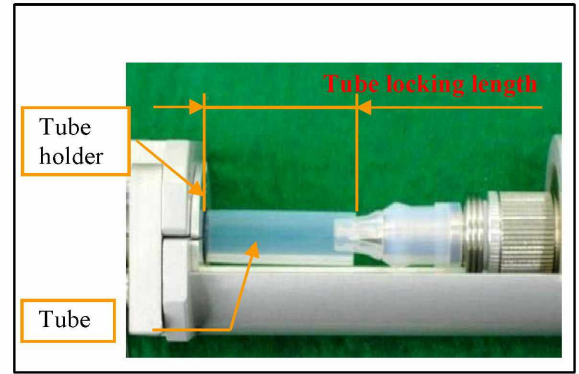

Fig. 58 - Tube locking length
- Open the clamp and install the tube with union nut passing through. Lock the tube with the clamp at the tube locking length (see Fig. 58 and Table 23)
- Lock the tube with the clamp at the tube locking length shown in Table 23. (see Fig. 58)